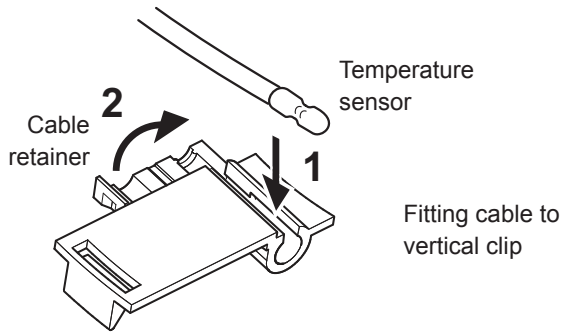

Fig. 5
10. The temperature sensor end must be fitted to the clip. Snap the cable retainer into position over the cable (Fig. 5).